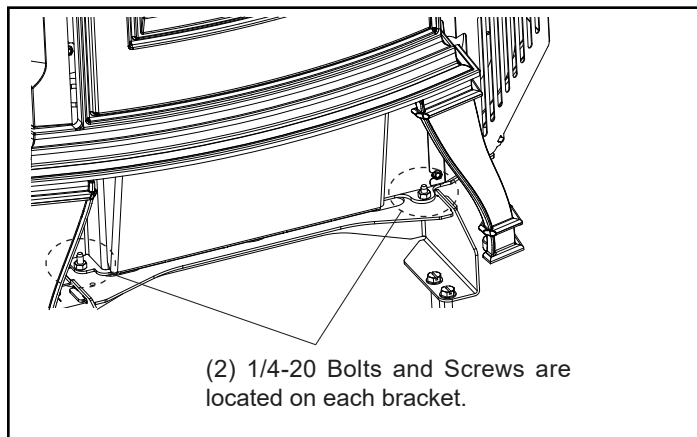

Figure 5.1
To free the stove from the skid you must remove (4) 1/4-20 screws and bolts from each shipping bracket using a 7/16" socket or wrench. Figure 5.1.